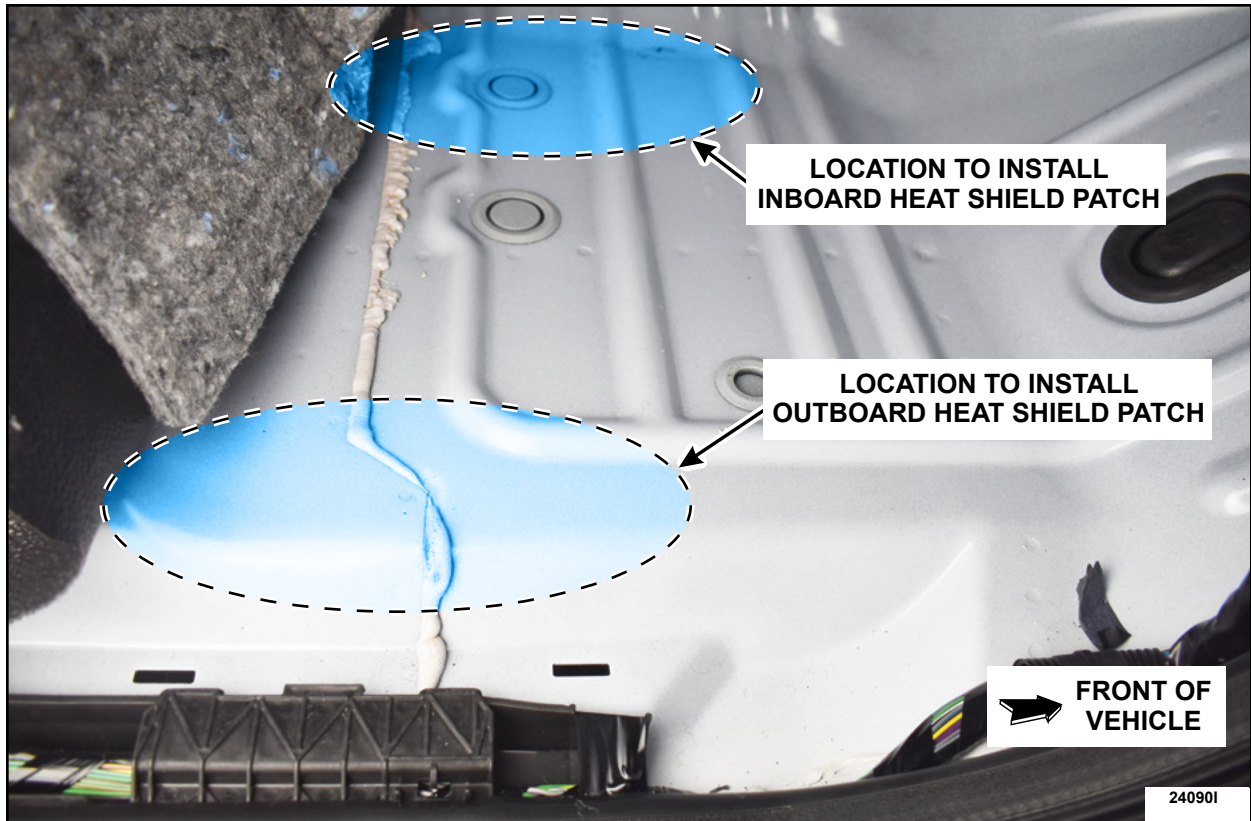

FIGURE 6
6. Review the location where the heat shield patches will be installed. See Figure 6.